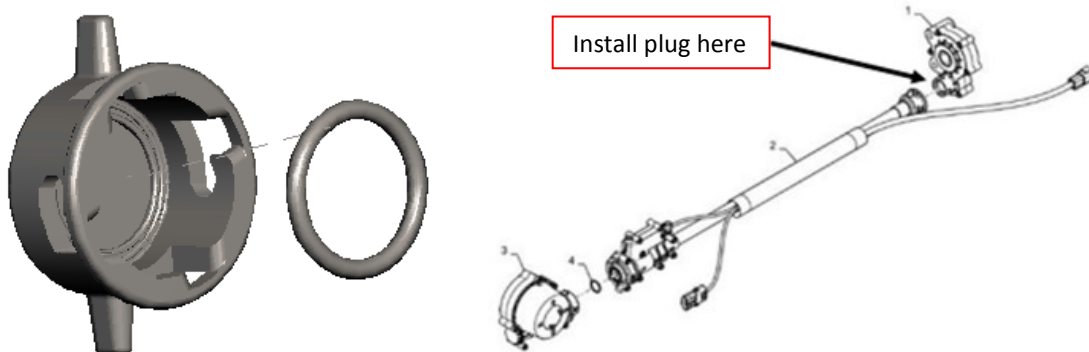

Figure 3 – Accu-Drive Plug Location
- a) If the planter is equipped with an Accu-Drive system, remove the drive cable from the gearbox. Install the o-ring into the drive plug and install the drive plug onto the gearbox as shown in figure 3. The entire Accu-Drive system can also be removed. The o-ring and plug would not be used.